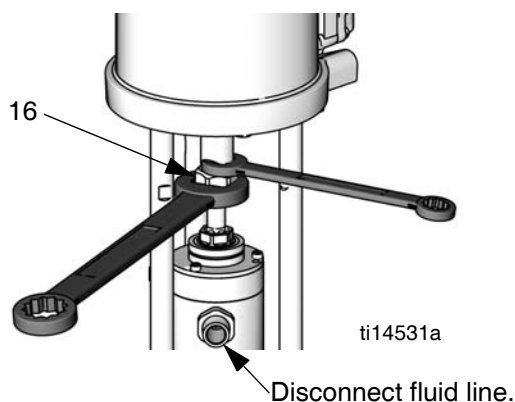

FIG. 26. Loosen the coupling nut
2. Disconnect the fluid line from the pump outlet. See FIG. 26.
3. **Merkur Pumps:** Remove the tie rod shield (26).
**Merkur Bellows Pumps:** Remove the coupler shield (79).
4. **Merkur Pumps:** Hold the flats of the air motor shaft with a wrench. Use another wrench to loosen the coupling nut (16).
**Merkur Bellows Pumps:** Hold the coupling nut (16) with a wrench. Use another wrench to turn the motor shaft. To avoid damage to the bellows top cap and the D-shaped seal, **do not turn the coupling nut**.